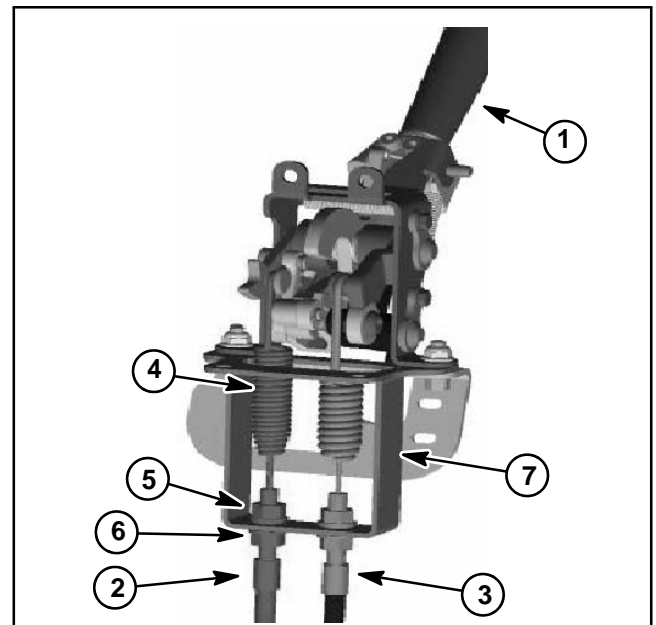

Figure 10
4. Remove traction clutch cable from the traction lever assembly (Fig. 10):
1. Secure traction clutch cable to the traction lever assembly (Fig. 10):